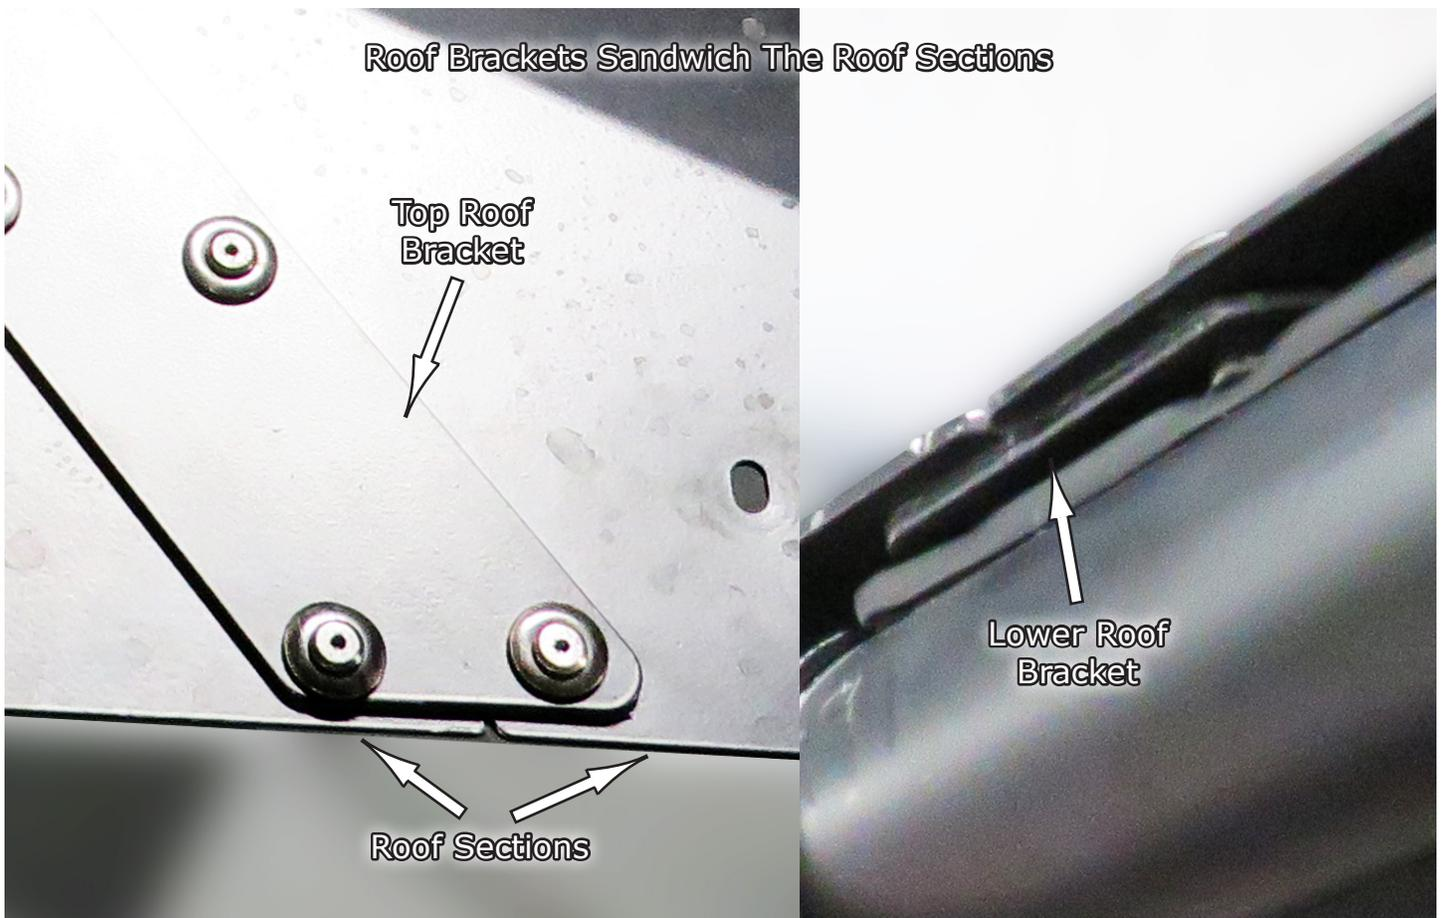

Fig.2
4. Now locate the two roof sections, and with using the two Roof Brackets, Sandwich the two Roof Sections with the **Fig.1b** Brackets as shown in **Fig.2**.